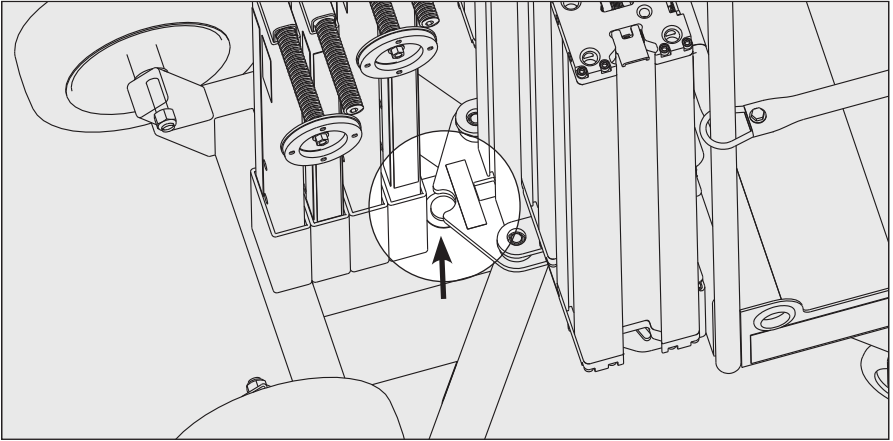

Figure 3-4 Bubble Level
- All outriggers must be installed corresponding to the number of masts, and elevated temporarily during maneuvering only. (See Figure 3-4)